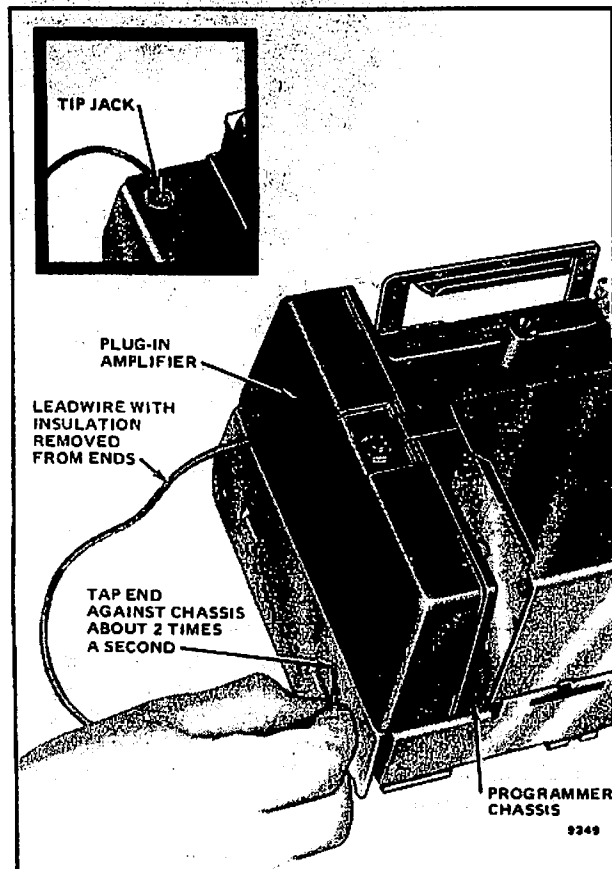

FIG. 16—SIMULATING FLAME FOR AN INFRARED AMPLIFIER.
- (1) Complete step 7.b.
- (2) Remove the plug-in infrared amplifier.
- (3) Remove 3/4 in. [19.1 mm] of insulation from each end of a 10 in. [254.0 mm] length of insulated wire. Plug one end of this wire into the tip jack on the front of the programmer chassis (Fig. 16).
- (4) Reinstall the plug-in amplifier and close the master switch.
- (5) Tap the free end of the wire against the programmer chassis at a rapid frequency (about 2 times a second) to simulate flame. Relay 2K should pull in and stay in while flame is simulated.
- (6) If relay 2K pulls in, the trouble is in the flame detector or its circuitry outside the programmer. Proceed to steps 8 and 9.
- (7) If relay 2K does not pull in, open the master switch.
- (8) Replace the plug-in amplifier with a new one of the same part number.
- (9) Close the master switch and repeat (5).
- (10) If relay 2K pulls in, restore the programmer to operating condition as instructed in step 8 on the next page.
- (11) If relay 2K still does not pull in, replace the programmer.